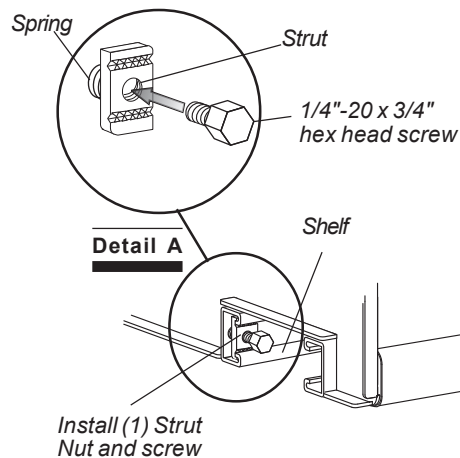

Figure 5
1. Hand-thread (1) 1/4"-20 x 3/4" hex head screw into one of the provided Strut Nuts as shown in Detail A, Figure 5.
2. Position (1) Strut Nut and screw it into the Suspension Shelf Rail as shown in Figure 5; then, use a 7/16" wrench to tighten the 1/4"-20 x 3/4" Hex Head screw and secure the Strut Nut in place. The Strut Nut serves as a stop for the Truck.